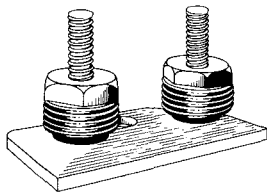

Fig. 56—5A Ground Strip
7.06 The 5A ground strip (Fig. 56) is intended for use in 10- and 16-pair NC, NF, and NH cable